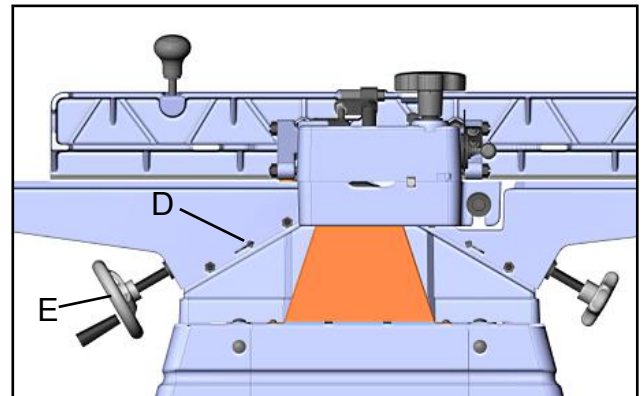
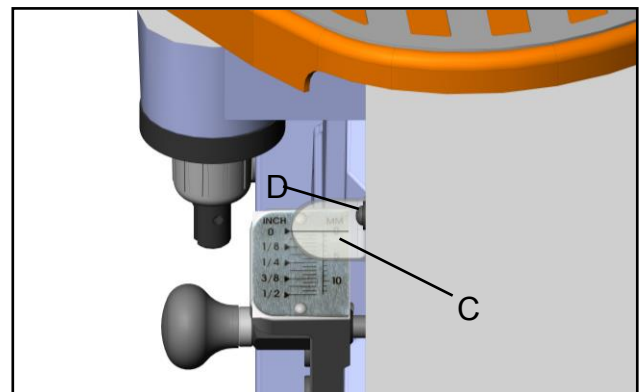

Fig. 5
Fig. 6
1. Loosen the thumb screw (D), Fig. 5
2. Place a straight gauge (C) cross the outfeed table & infeed table
3. Turn the handwheel (E) until the outfeed table & infeed table on the same level.
4. Tighten the thumb screw (D).
5. Loosen Round Head phillips screw (F), Fig.6 then adjust the pointer (G) by hand until the pointer line alignment with scale "0" .